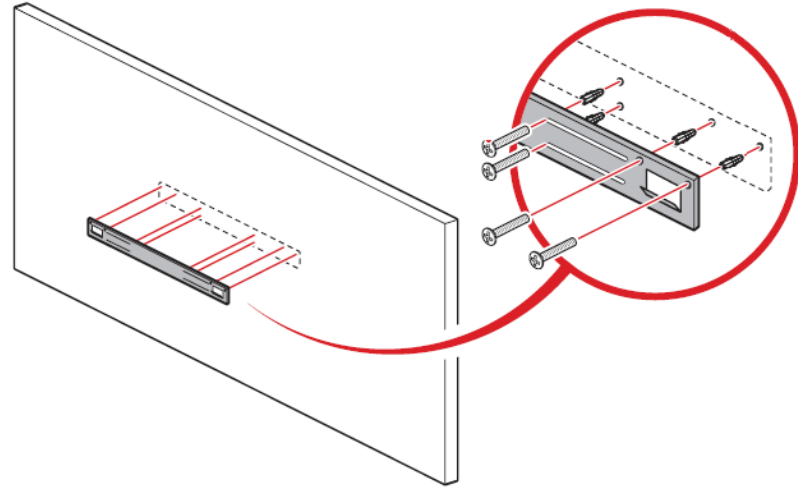
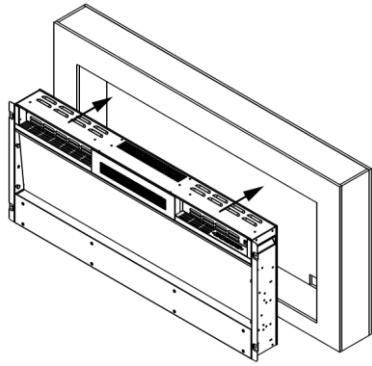

Fig.5
Fig.1
**Installation (see Fig1 ~ Fig 5)**
- A distance of 600mm from the bottom of the heater to the floor is recommended for optimum viewing of the fuel bed; see Fig.1 below for recommended fixing dimensions.
- Insert eight 4\*30mm wall anchors into holes, then attach the mounting bracket to the wall with eight 4\*30 screws.Fig.5
Please see Fig.1
- Fix the tempered glass with 2pcs of 4\*8mm screws provided.(Fig.5)